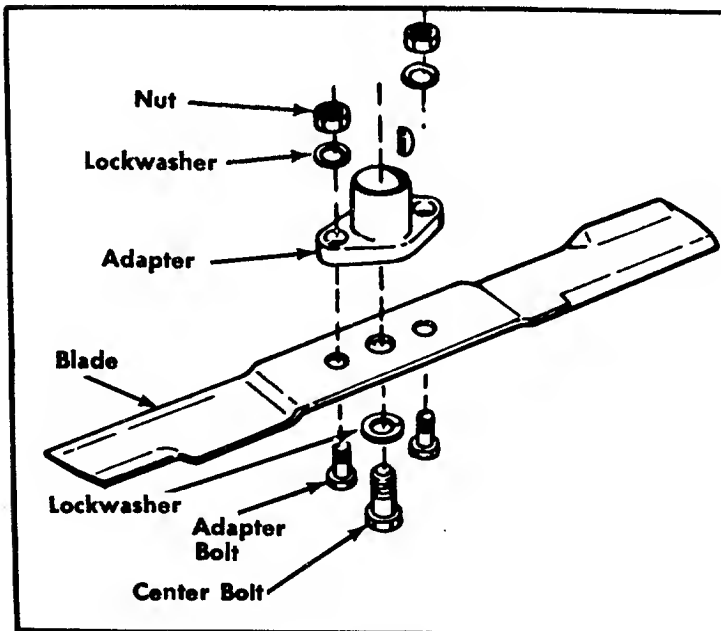

FIGURE 20. BLADE REMOVAL
**Removing and Sharpening Blades.** Remove the center bolt and lockwasher. See figure 20. Pull the blade and blade adapter from the blade spindle.